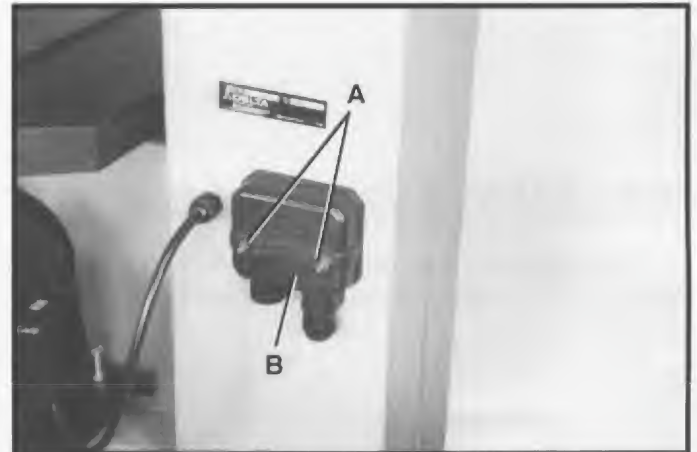

Fig. 6A
1. Remove two hex nuts (A) Fig. 6A, and terminal cover (B).
3. Replace terminal cover (B) Fig. 6A, after machine is connected to the power source.